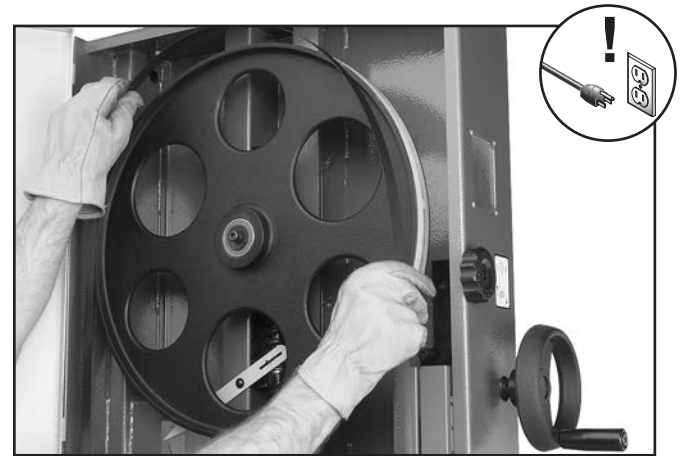

Figure 74. Example of placing blade on upper wheel.
3. Slip blade through blade guides, and mount it on upper and lower wheels (see **Figure 74**).